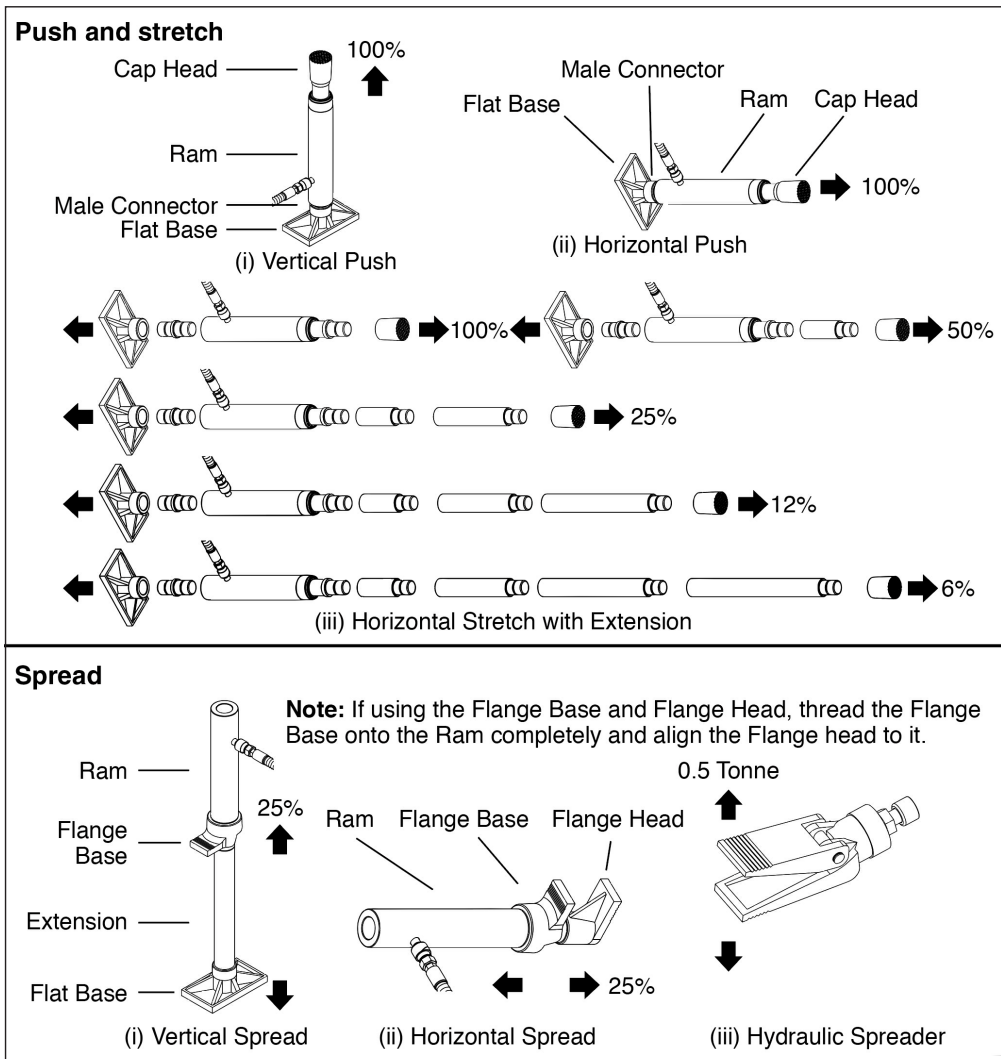

Fig. 2
6.3 Ram Set Up - Fig. 2
1. Clean the end of the hose coupler (8) and the inlet on the ram (9).
2. Unscrew and save the dust covers located on the end of the hose coupler (8) and ram (9).
4. Assemble attachments as shown in Fig 2.